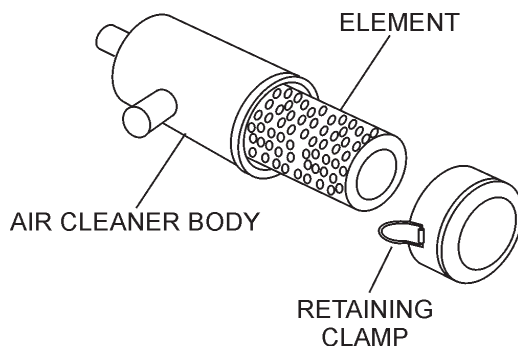

Figure 24. Air Cleaner
1. Release the air cleaner retaining clamps (Figure 24) and remove the air cleaner element.